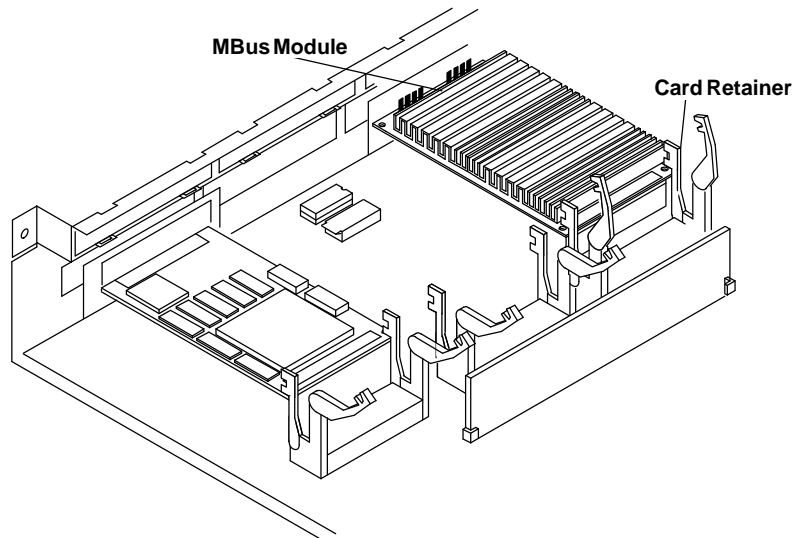

Figure 4-8. Locking Down Card Retainers for the MBus Module
6. Lock the arms of the card retainers on the module by pushing them over the edge of the module as shown in Figure 4-8.